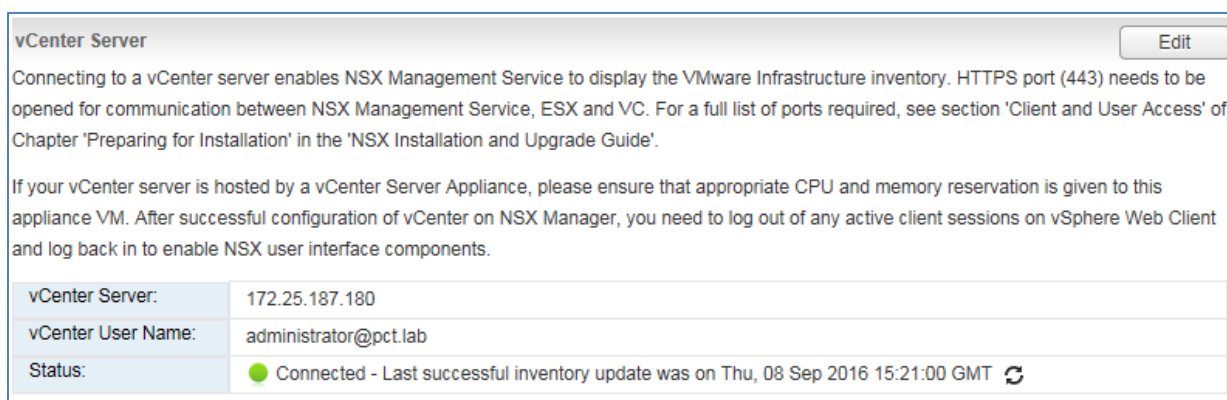

Figure 69 NSX Manager is connected to vCenter Server
7. Verify the vCenter Server status is **Connected** as shown in Figure 69.